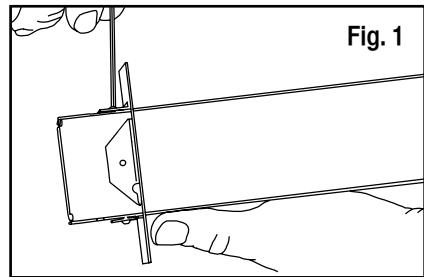

Fig. 1
2. Pre position and fasten wall plate to one side of pathway (see Fig 1) roughly centering pathway within barrier.